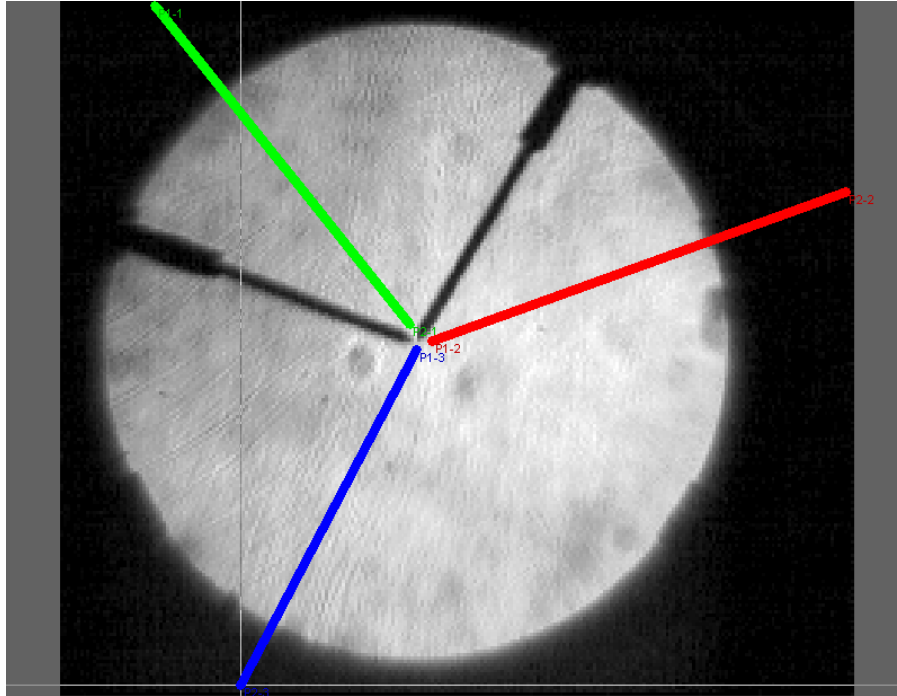

Figure 3:
7. Additional lines can be placed by clicking the “**Add**” button. Add two more lines to the image and repeat steps 3-6 for each one. Your video image should resemble Figure 3.